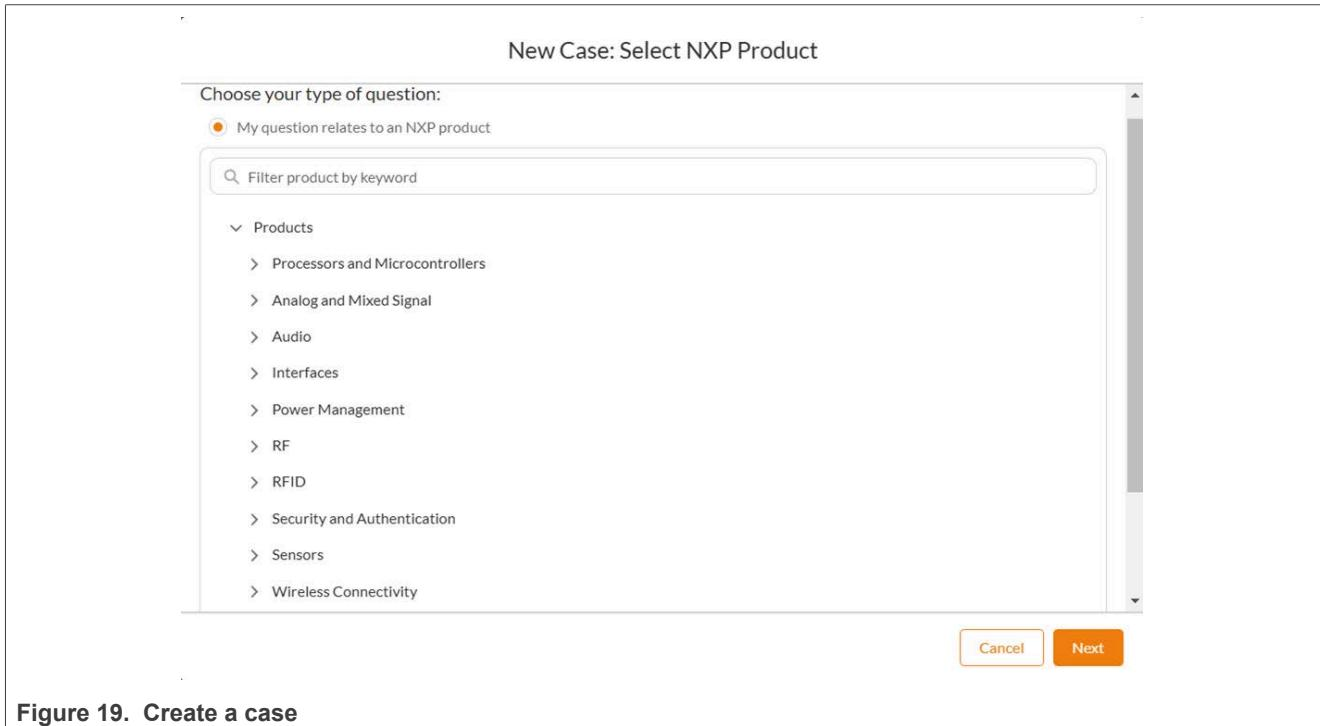

Figure 19. Create a case
Step 3 – Create a case (Figure 19).